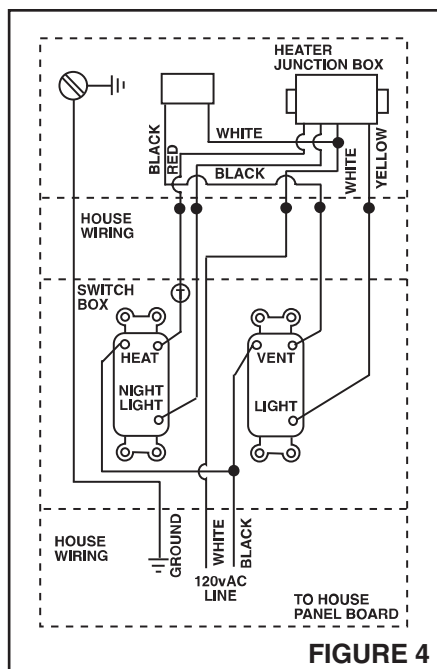

FIGURE 4
2. Refer to Figure 4. Run 120vAC supply wiring to wall switch box. Run wiring from wall switch box to heater. Five conductors plus ground are required for independent operation of all functions.
3. When a thermostat or timer switch is used, connect at point marked "T" on Figure 4.